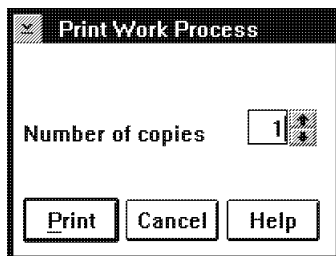

Figure 44. Print Work Process Window
1. Select **Print textual format** from the **Work process** pull-down in the Work Process window. You see the Print Work Process window shown in Figure 44.